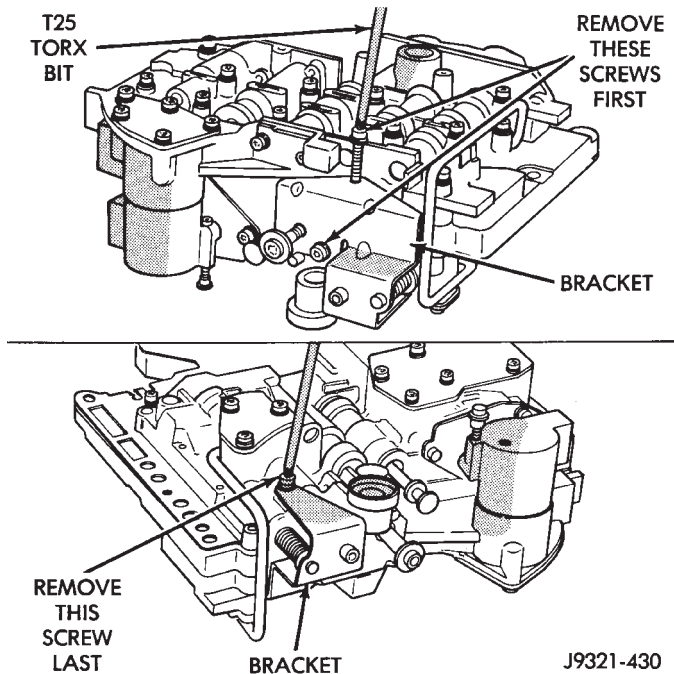

Fig. 59 Adjusting Screw Bracket Fastener
(19) Remove screws attaching pressure adjusting screw bracket to valve body and transfer plate (Fig. 59). Hold bracket firmly against spring tension while removing last screw.